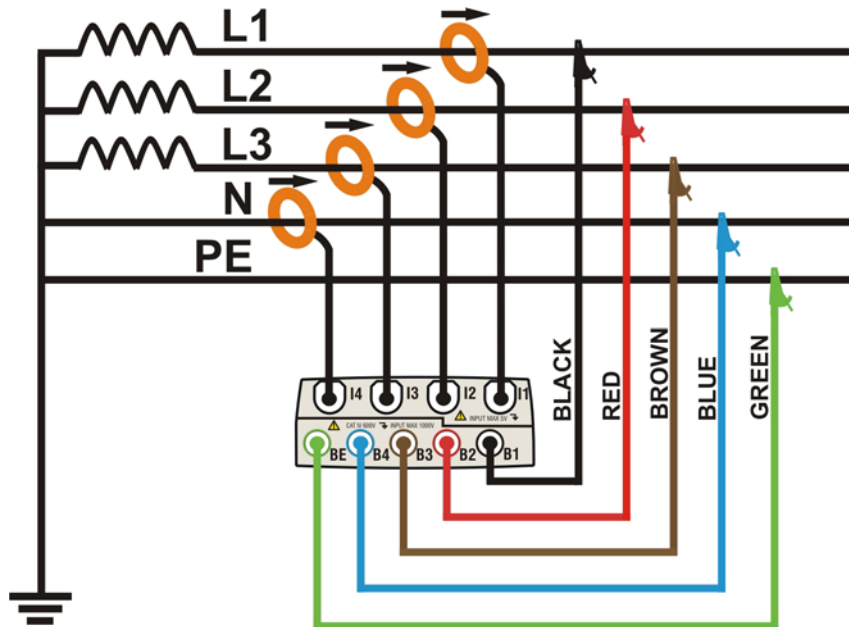

Fig. 205: Meter connection in a three phase 4-wire system
2. Connect voltage test leads on Phases L1, L2, L3, Neutral and Ground cables considering the colours as shown in Fig. 205. **Verify the result “123” at display relative to a correct phase sequence indication** (see § 5.2.1) and perform the corrections if necessary.
3. Connect the transducer current clamps on Phase L1, L2, L3 and Neutral N (**not available for PQA400**) cables as shown in Fig. 205 respecting the clamp's arrow direction indicating the current standard sequence from generator to load. **On Real Time Values' section screens always verify the positive value of Active Power and the power factor relative to each load which should be normally inductive** before starting a recording. Reverse the clamp by 180 degrees on cables in case of negative readings.